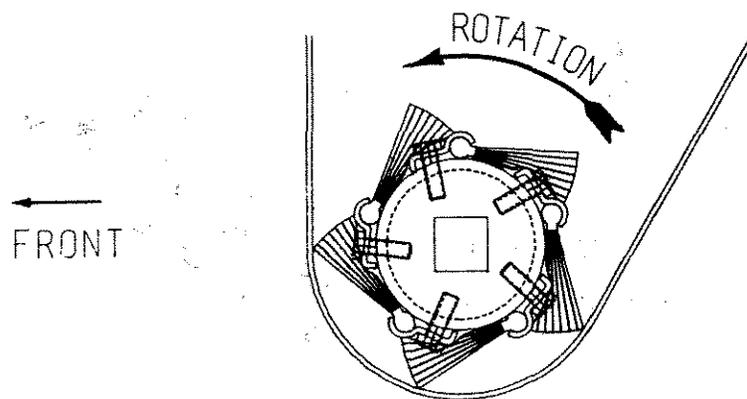

Figure 23
3. Observe Figure 23. Brush agitators must be installed with careful attention to the direction of shaft rotation. The brushes must face backward, away from rotation to wipe over the seed openings. BRUSHES WILL BE DESTROYED IF INSTALLED BACKWARDS. Apply enclosed decal to front seed box as a reminder to tractor driver.